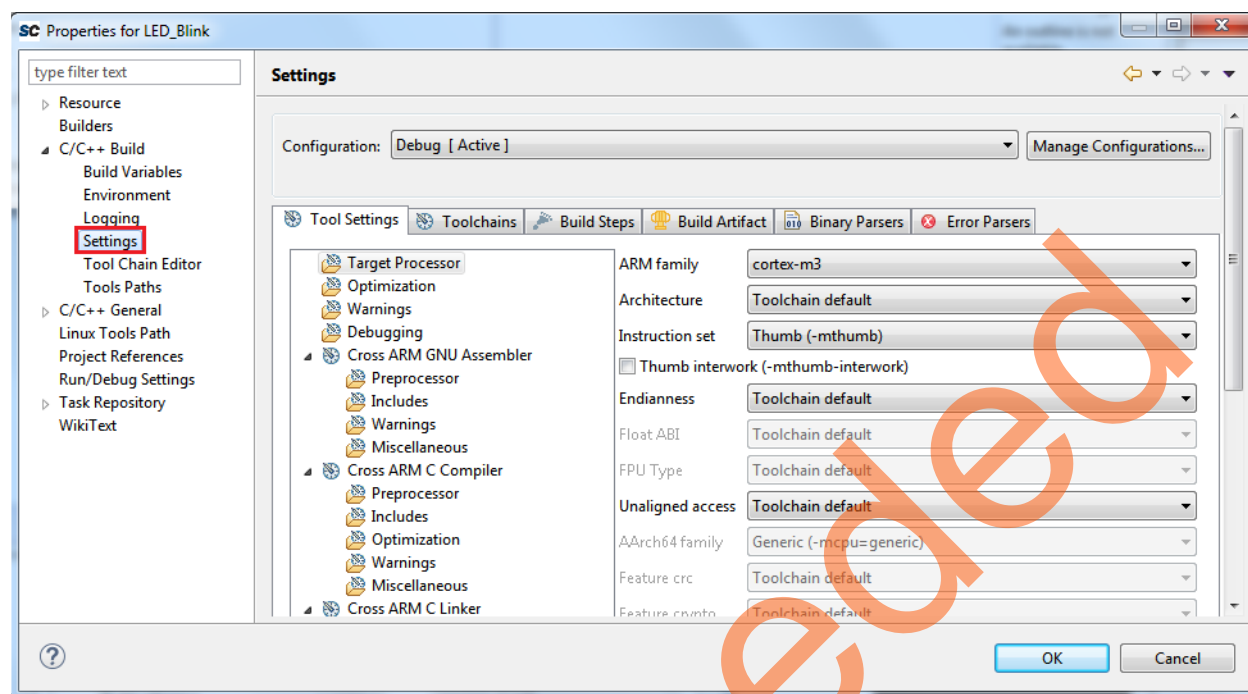

Figure 34 • Properties for LED_Blink
16. click **Settings** under the **C/C++ Build** tab, as shown in Figure 34.